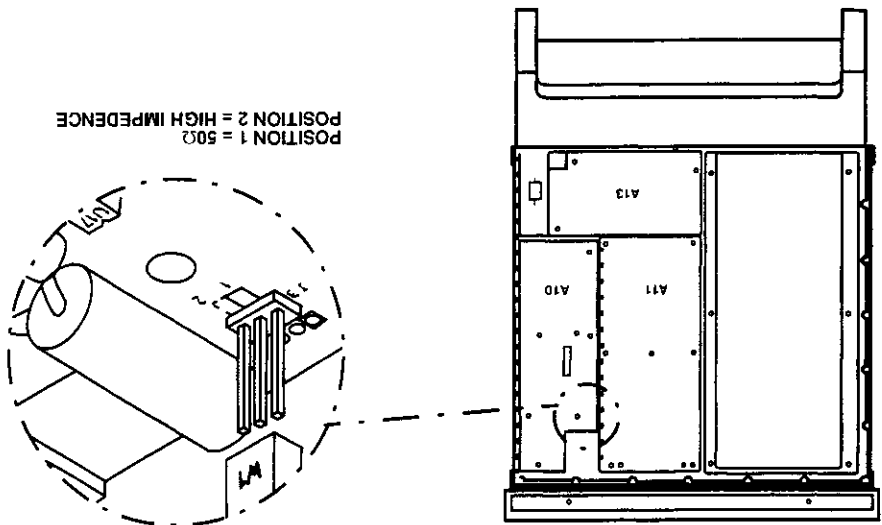

Figure 2-6. Pulse Modulation Input impedance selection
- Refer to Figure 2-6. Locate the selection link WL. When this is set to position 1, the input impedance is set to 50 ohms; when it is set to position 2, the input impedance is set to high impedance. Set WL into the position you require.